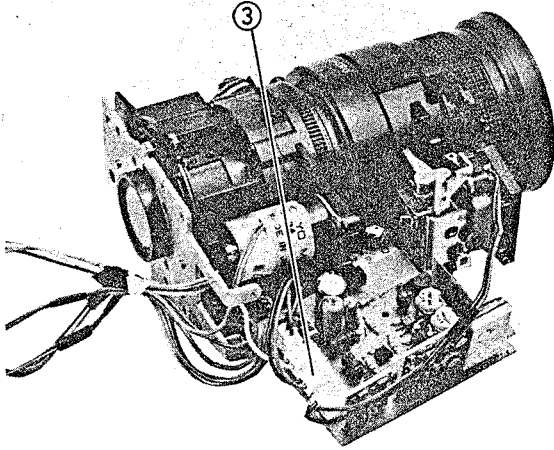

Fig. 2-134 Auto Focus Motor Removal
Auto Focus Motor Removal (Figs. 2-134, 2-135)
3. Disconnect connector CN2. (See Fig. 2-134)